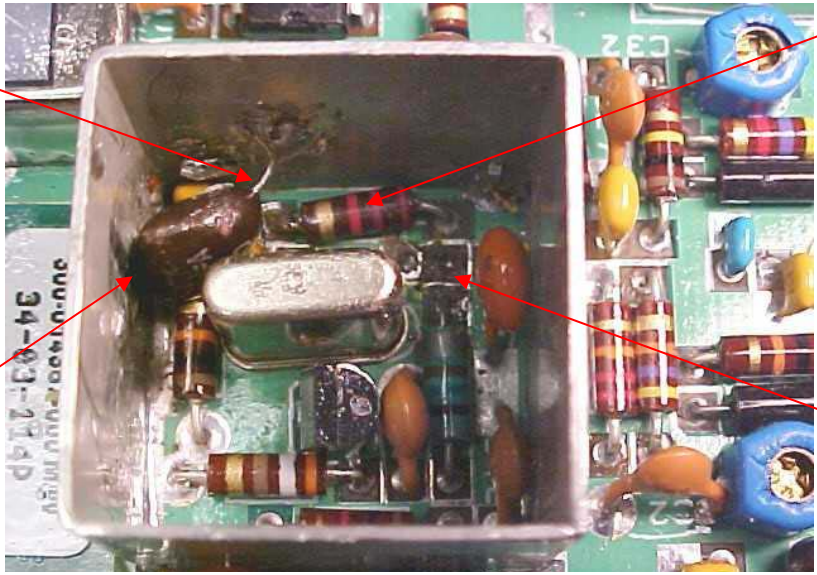

Figure 1
2. Locate and remove C43. See Figure 1.
3. Cut both legs of Item 1 to .2". Solder one leg of Item 1 (C500) to R32 junction. Solder the other leg of Item 1 (C500) to the adjacent shield. See Figure 1.